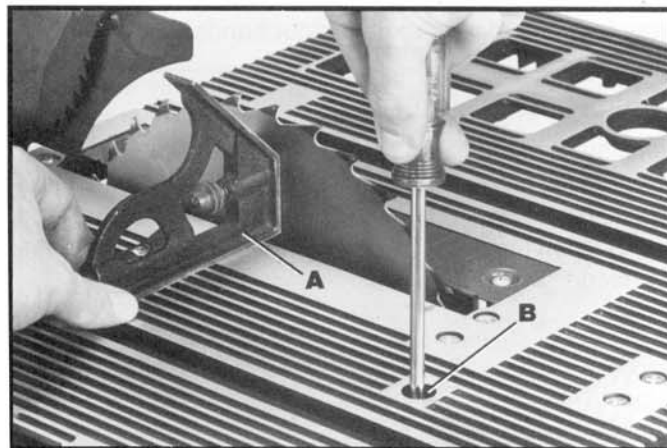

Fig. 23
4. Place a square (A) Fig. 23, on the table with one end of the square against the blade, as shown, and check to see if the blade is at 90 degrees to the table. If it is not, loosen screw (B) a few turns and move the blade tilting mechanism until the blade is at 90 degrees to the table. Then tighten blade tilting lock handle and tighten screw (B) until it bottoms.